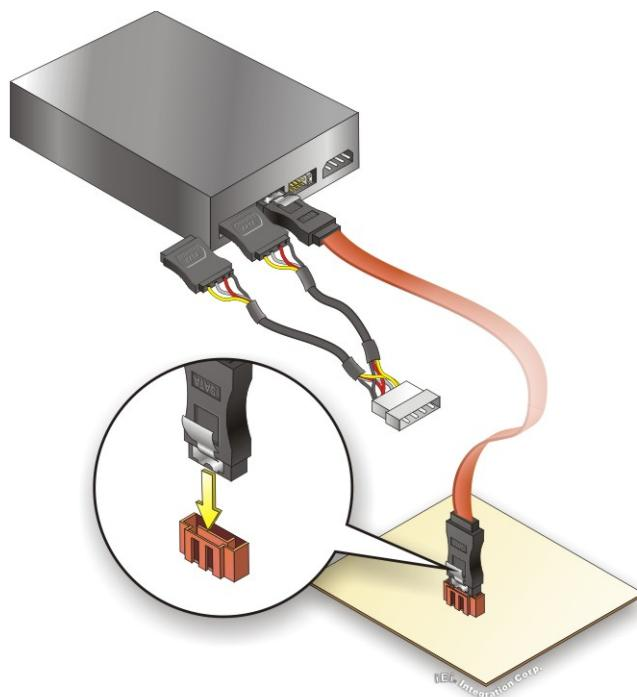

Figure 4-11: SATA Power Drive Connection
- Step 3: Connect the cable to the SATA disk.** Connect the connector on the other end of the cable to the connector at the back of the SATA drive. See **Figure 4-11**.
- Step 4: Connect the SATA power cable.** Connect the SATA power connector to the back of the SATA drive. See **Figure 4-11**.